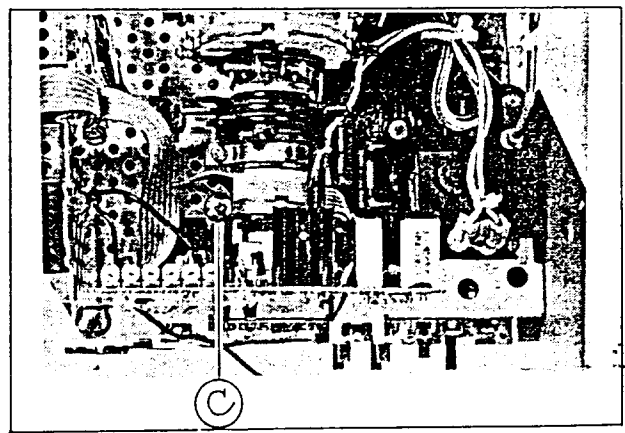

FIG. 5
2. Loosen a screw marked (C) shown in Fig. 5.